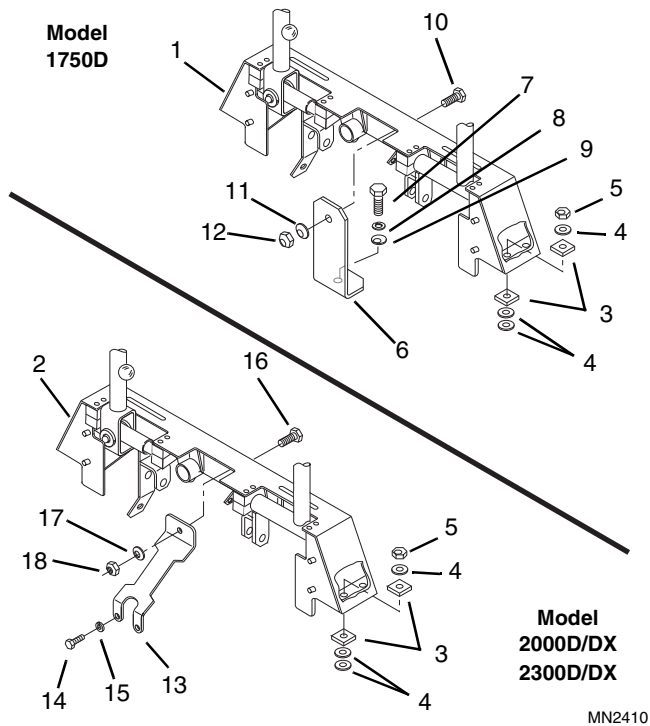

Figure 7-16 Lever Crossmember Installation
1. Lift the travel/steering lever crossmember (Fig. 7-16, 1 or 2) into the vehicle as an assembly.
2. Install the isolator pads (Fig. 7-16, 3), washers (4) and new locknuts (5) to each side of the crossmember. Snug nuts to slightly pre-load the rubber isolator pads (3). Do not overtighten.
Model 1750D - Install the front support bracket (Fig. 7-16, 6) to the charge/implement pump using capscrew (7), lockwasher (8), and flat washer (9). Install the capscrew (10), flat washer (11), and elastic hex locknut (12) attaching the front support bracket (6) to the lever crossmember (1), and tighten.
Model 2000D/DX and 2300D/DX - Install the front support bracket (Fig. 7-16, 13) to the implement pump using two capscrews (14) and lockwashers (15). Torque both capscrews (14) to 27-31 lb/ft (37-42 Nm). Install the capscrew (16), flat washer (17), and elastic hex locknut (18) attaching the front support bracket (13) to the lever crossmember (2), and tighten.